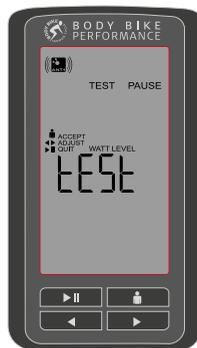

Figure 39
- 2) Enter the test by pressing F until you reach the test screen, see figure 39.